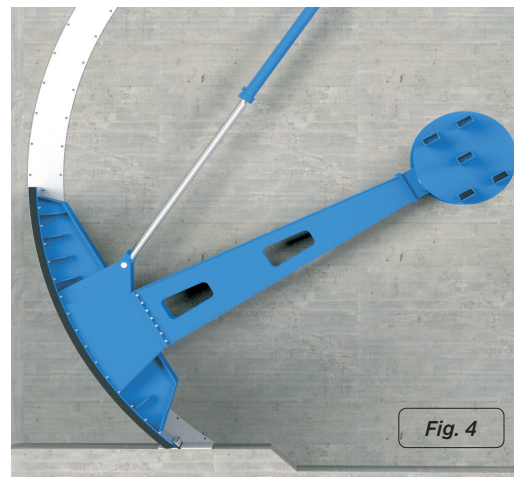

Fig. 4
- After positioning the stopboard in closed position, bypass the brackets on the bases of the turning point embedded in the side walls (fig. 4).